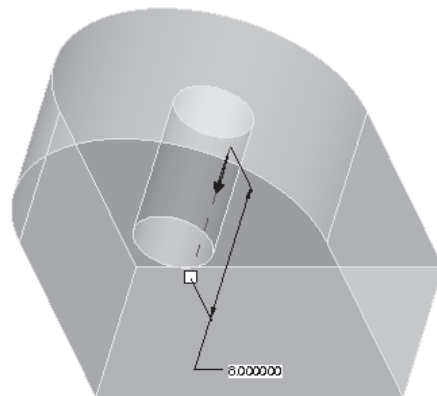

Figure 4-58 Default orientation of the model and the arrow showing the direction of feature creation
5. In the dimension box present on the **Extrude** dashboard, enter a value of 8; the model appears, as shown in Figure 4-58.